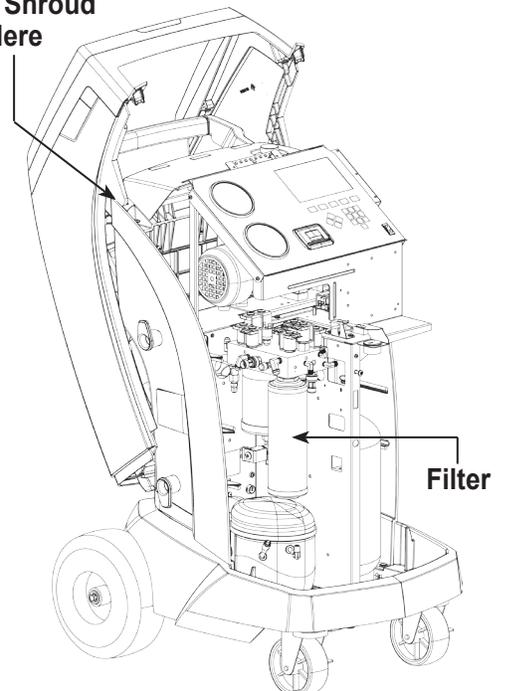

Figure 8
3. Hang the shroud on the back of the machine as shown in Figure 8.
6. Install the new filter by threading it clockwise into place. Verify the filter is positioned correctly as shown in Figure 8. Tighten the filter to 20 Nm.